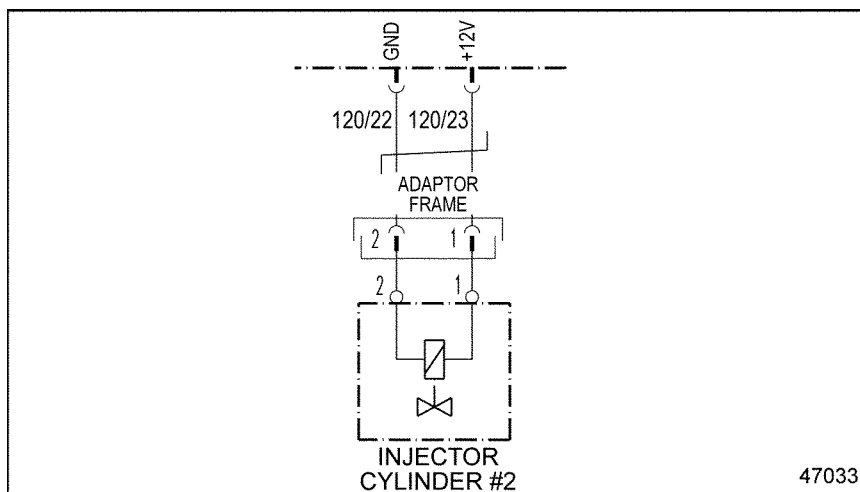

Figure 25-1 **Injector #2**
4. Measure the voltage between pins 1 and 2 of injector #2. See Figure 25-1.